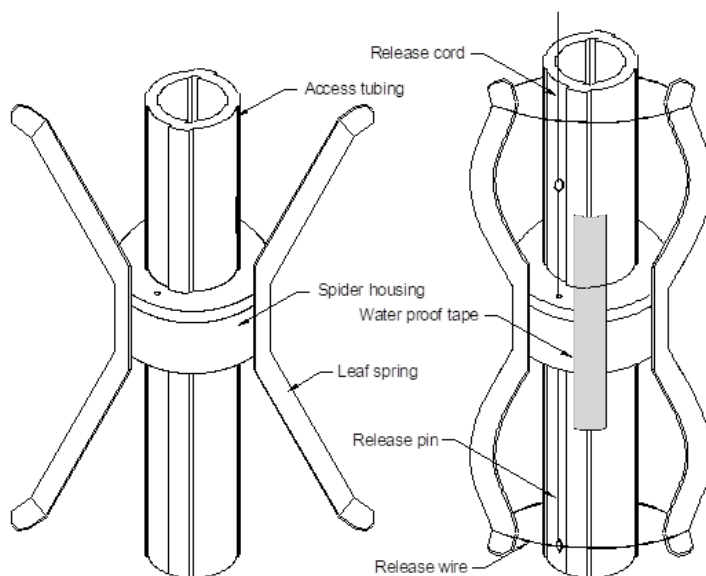

Figure 7-8 Spider magnet installation on access casing
2. Before lowering the second casing, position the spider magnet on casing at the desired location. Fix it with waterproof sealing tape (refer to figure 7-8) on the access casing. For example, in case the desired interval between the magnets is 3 m, the spring magnet will be fixed on the access casing, which comes in 3 m length, 0.5 m above the bottom of casing (to maintain 3 m interval from datum magnet).